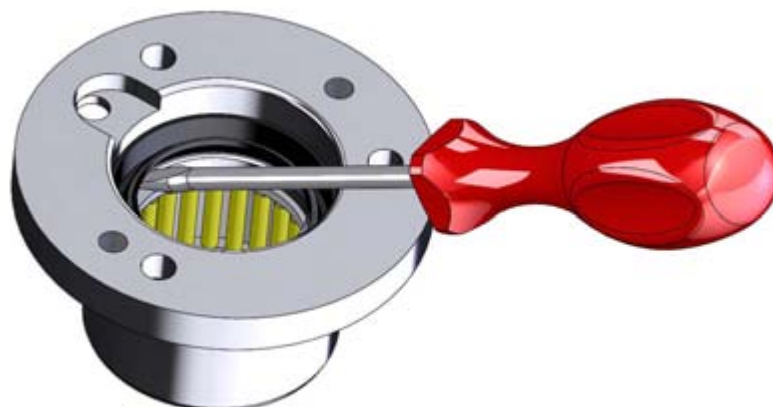

Figure 29. Removing the rear bearing seals
1. Remove the seals with a screwdriver, for example (figure 29).